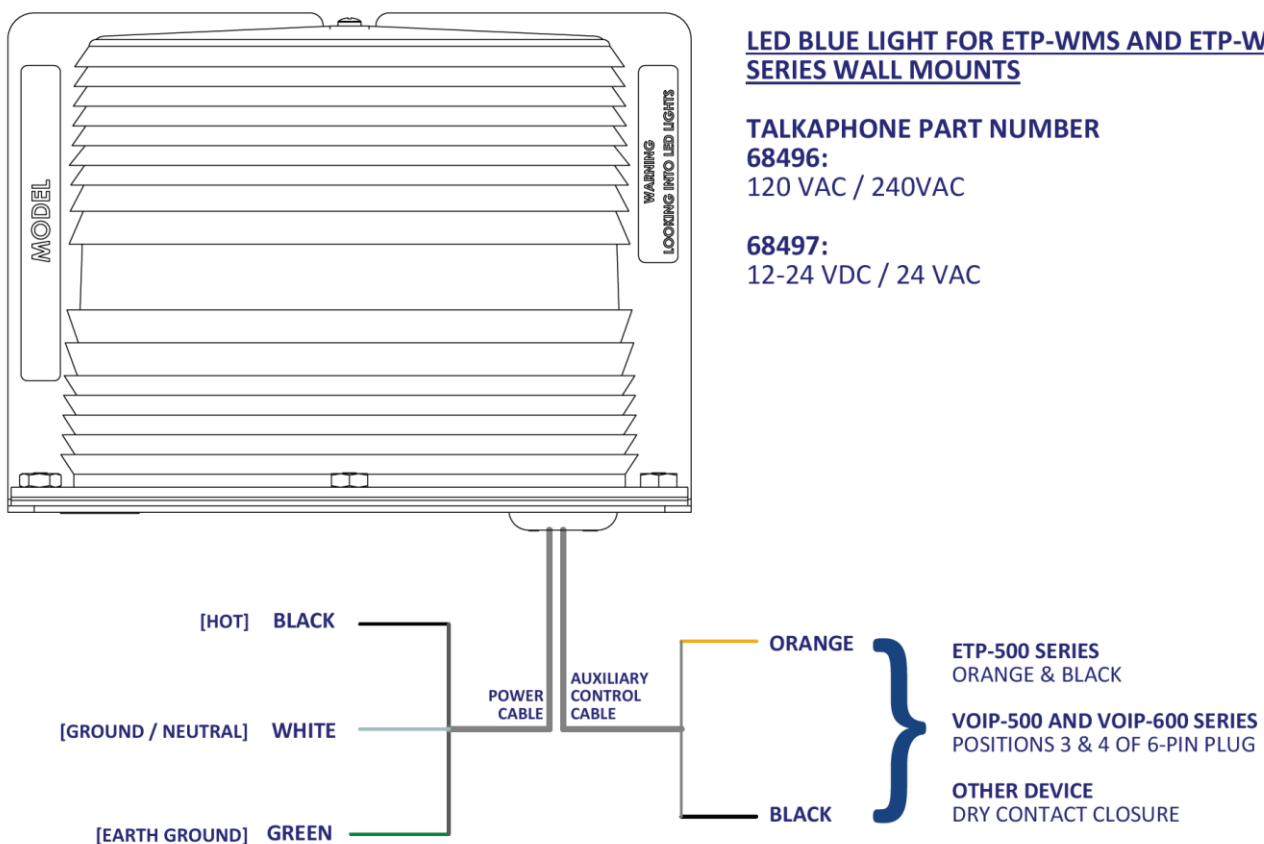

Figure 1: Electrical connections to the 68496 (120VAC) or 68497 (12/24VDC, 24VAC) LED Blue Light
3. Remove the cap lid from the Wall Mount by removing the four #10 spanner security screws located on the side of the unit. **DO NOT** remove the Lexan shield from the unit. Mount the unit on the wall using the two keyholes on the top rear of the unit to the two screws mounted to the wall in **Step (1)**.
5. Install conduit over the bottom hole(s) of the unit if the method in **Step (2)(b)** is being used and bring power line and/or telephone/data line inside the unit.
7. Part Nos. **68496** (120VAC) and **68497** (12/24VDC, 24VAC) are the LED Blue Light and can be connected to their respective power source, while grounding the green wire (See **Figure 1**).